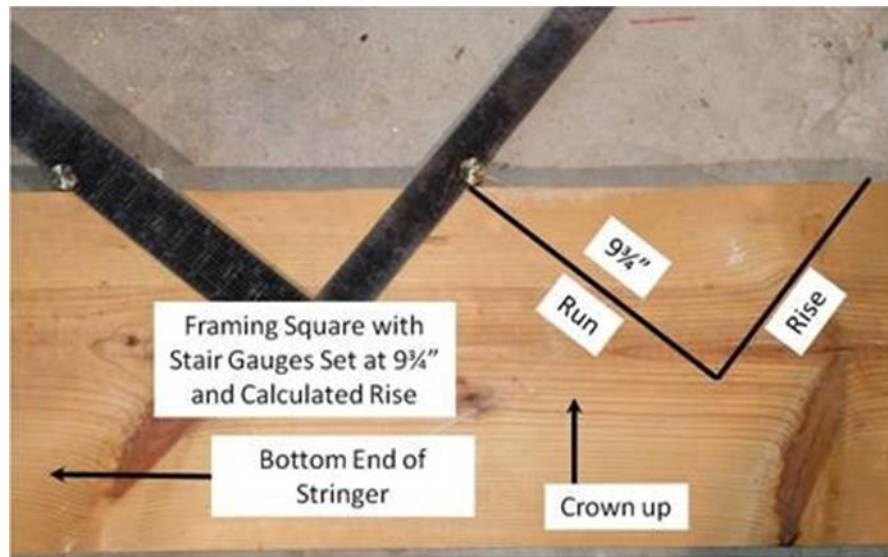

Figure 4-3. Stair Stringer Layout.
- Attach stair gauges to the framing square and locate the precise dimensions calculated in Section 4.2.1 for run and rise. If the rise is 7¾”, set the gauge to this dimension on the short side of the square; set the gauge to 9¾” on the long side of the square (see Figure 4-3).